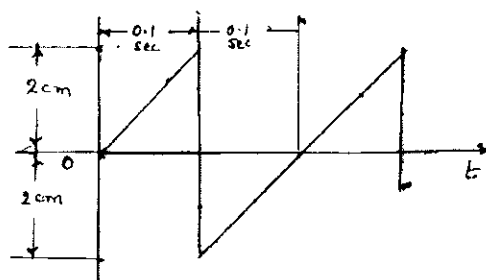

Fig. Q1 (c)
- c. A periodic motion observed on an oscilloscope is shown in Fig. Q1 (c). Represent this motion by a harmonic series. (10 Marks)